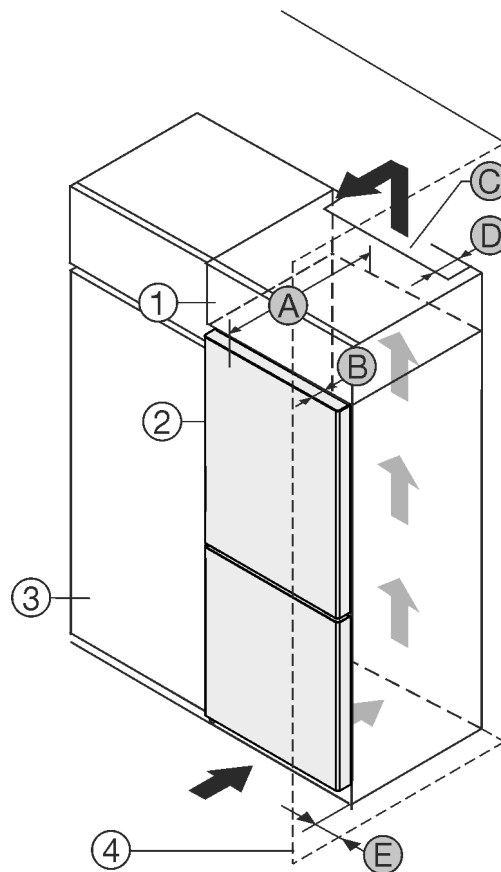

Fig. 1
- (1) Top cupboard \*
- (2) Appliance \*
- (3) Kitchen cabinet \*
- (4) Wall \*
- (A) Appliance depth \*
- (B) Door depth \*
- (C) Ventilation cross section \*
- (D) Distance to the back of the appliance \*
- (E) Distance to the side of the appliance \*
You can place the appliance directly beside the kitchen cabinet Fig. 1 (3).\*
There must be a ventilation shaft at the depth Fig. 1 (D) of the back of the top cupboard over the entire width of the top cupboard.\*
The ventilation cross-section *Fig. 1 (C)* must be maintained under the ceiling.\*
If the appliance is set up with the hinges next to a wall *Fig. 1 (4)*, the distance between the appliance and the wall must be at least 13 mm.\*
If the appliance is set up with the hinges next to a wall *Fig. 1 (4)*, the distance between the appliance and the wall must be at least 20 mm.\*
In order to be able to fully open the door, the appliance must protrude by the depth of the door *Fig. 1 (B)* from the front of the kitchen cabinet. The appliance may protrude further depending on the depth of the kitchen cabinets *Fig. 1 (3)* and whether wall spacers are used.\*